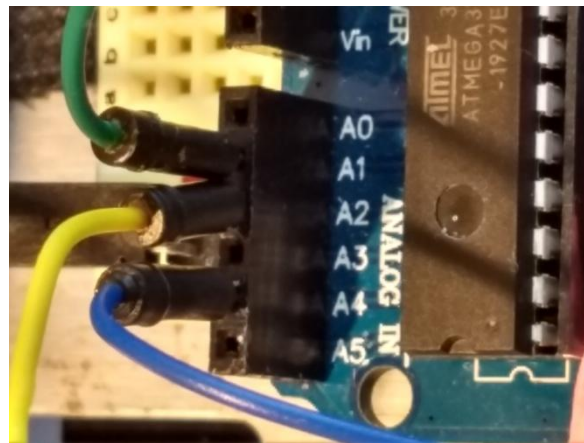

Figure 23. Connecting flexible jump wires to the Arduino
7. Connect the free end of the flexible jump wires to Port A2, connect the other flexible jump wire to Port A1, as shown in Figure 23.